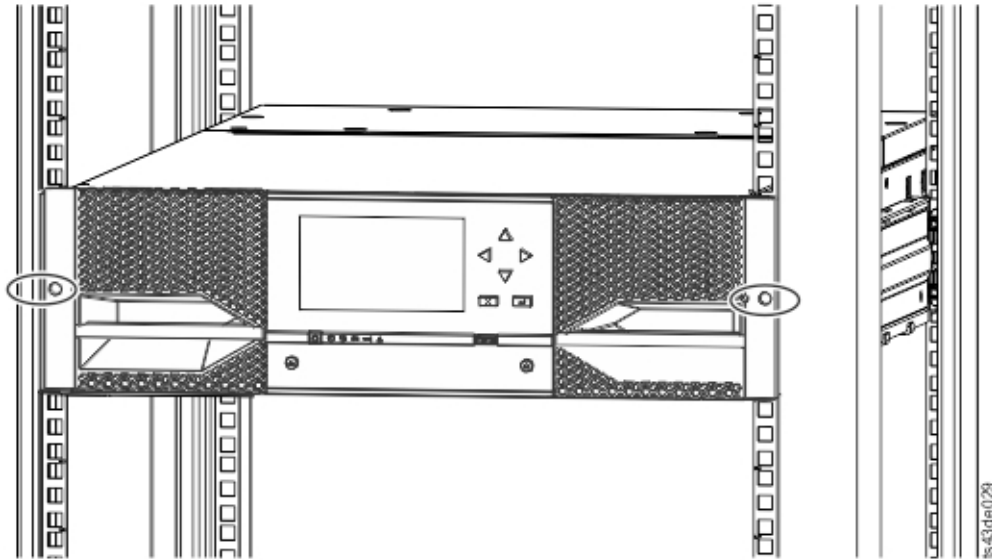

Figure 43. Library in the rack
5. With a Phillips screwdriver, loosely screw the module to the front of the rack, one screw on each side. See the circled areas in Figure 43.